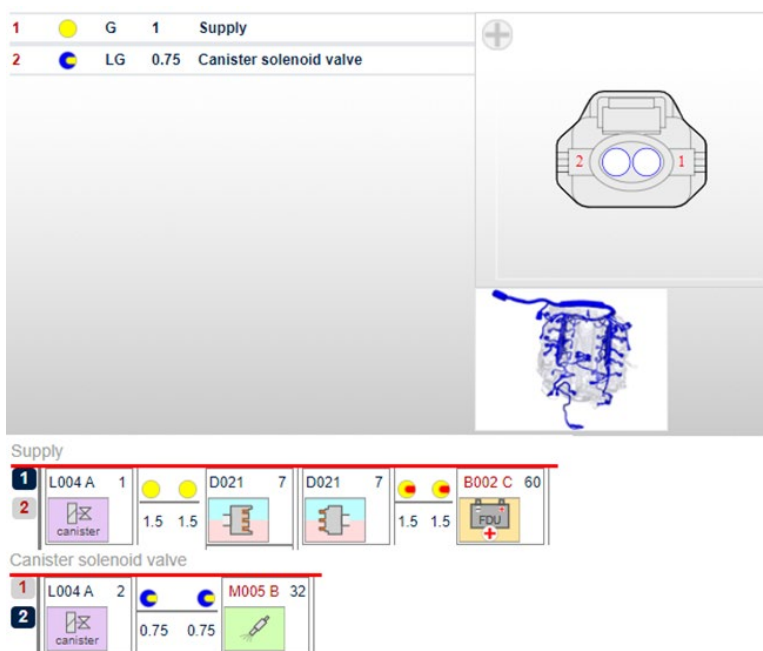
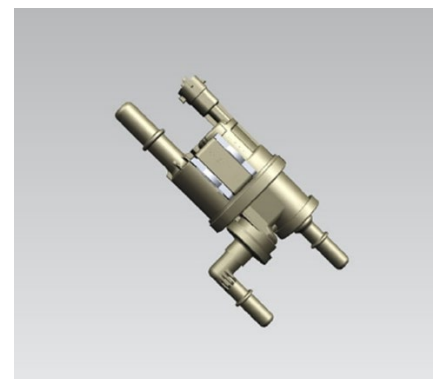

Figure 2: 3 way purge valve wiring diagram.
Figure 3: 3 way purge valve.
All the above DTC's are related to the new pressure sensor used by the ECM to monitor the high load purge line from the purge valve to the ejector tee and to the right intercooler (Figure 2, Figure 3). The new pressure sensor is located on the connection pipe from the purge valve to ejector tee (Figure 4, Figure 5).
2. **Only for V8 engines-** in order to understand if the purge valve connectors are correctly fitted and connected to the correct purge valves (3 way purge valve and 2 way purge valve connectors could be switched – Figure 1, Figure 3, Figure 5) , perform the following electrical checks on wiring harness:
- b. Check the **3 way purge valve** wiring harness integrity and the correct pin-out (Figure 2): Ensure there are no short circuits to power supply or ground and it's securely plugged in. Perform these checks with the KIN in the OFF position, disconnected battery power supply and disconnected connectors from the ECM and sensor, in order to isolate the wiring.